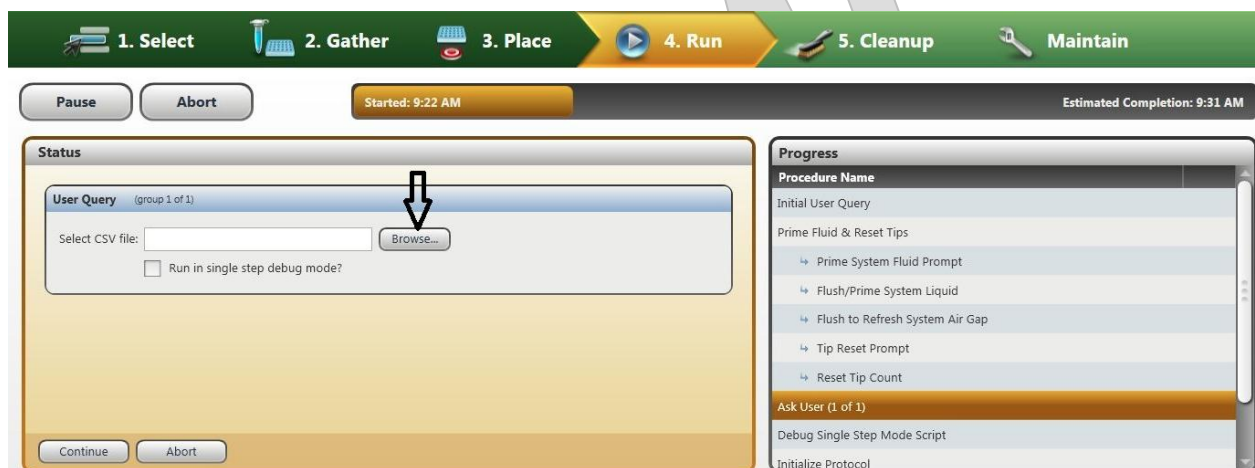

Figure 21: Selecting the CSV file
- 4.15. Another popup window appears as shown in Figure 21.